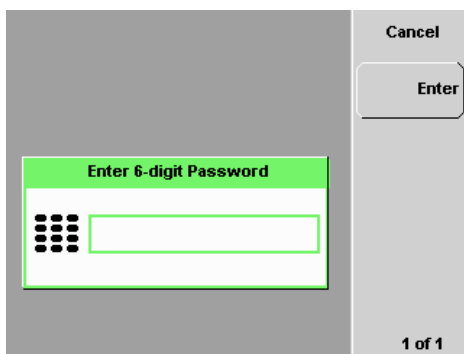

Figure 2-52 Enter password to restore display
- 9 After screen is blanked, pressing of any keys on the front panel will prompt you to enter password to restore the display (see Figure 2-52). You are allowed up to three attempts of password entry.